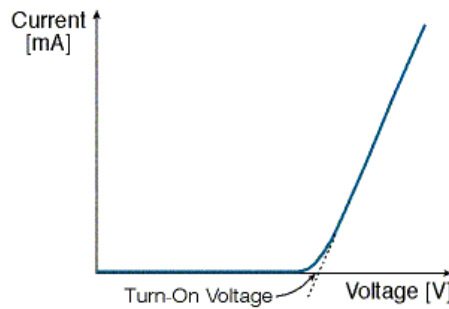

Figure 1.1: A graph of the general IV characteristics of an LED. Source: <https://web.phys.ksu.edu/vqm/laserweb/Labs/Labi-v/LAB-IV3.gif>
LEDs are non-ohmic conductors, meaning that they do not follow the  $V \propto I$  relationship of ohmic conductors. The general current-voltage (IV) behaviour of LED's is shown in figure 1.1.
As shown in figure 1.1, the current passing through the LED is  $\approx 0$  A for voltages far below the so-called “turn-on” or “threshold voltage”,  $V_T$ , of the LED.  $V_T$  represents the voltage at which  $E_e = eV = E_g$  and the electrons have sufficient energy to be promoted to the conduction band to conduct current. As we approach  $V_T$ , current increases rapidly with voltage. This increase is initially non-linear, yet approaches linear behaviour at voltages greater than  $V_T$ . By extrapolating the near linear region of the graph to the origin, an estimate of  $V_T$  can be obtained.
When you analyse your data, the threshold voltage will be found by extrapolating the linear region of the  $I - V$  curve to the  $x$ -axis (see figure 1.1), so make sure you have enough data in the linear region to perform a good fit.